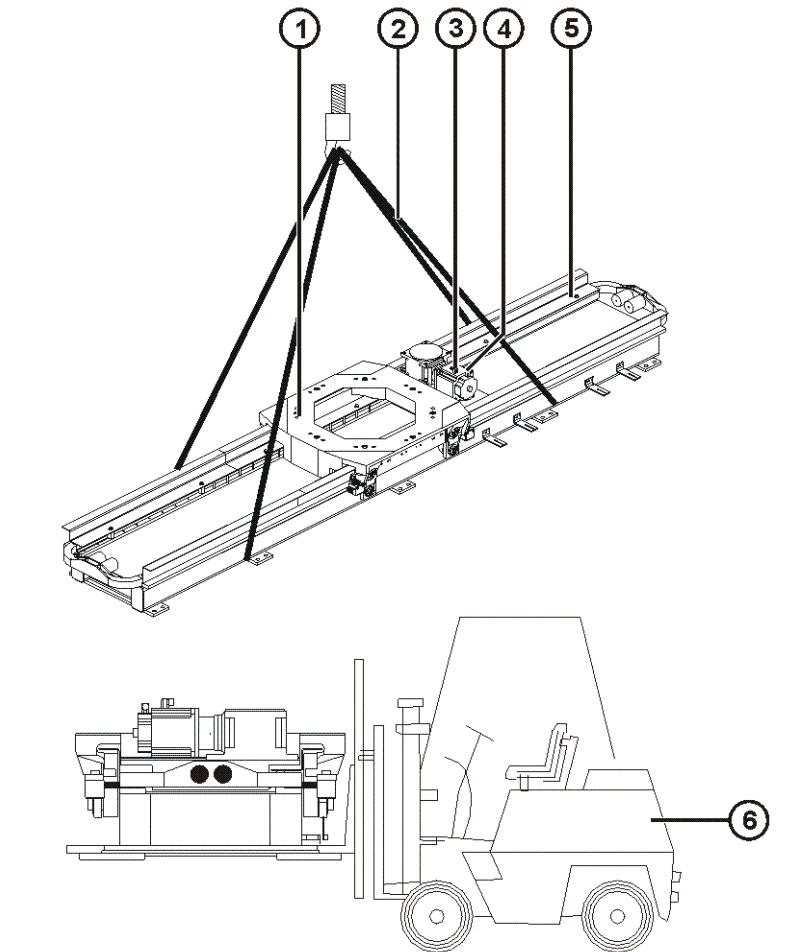

Fig. 13-1: Removing the linear unit
2. Move the carriage (>>> Fig. 13-1) to the middle of the beam and secure it so that it cannot be moved unintentionally.